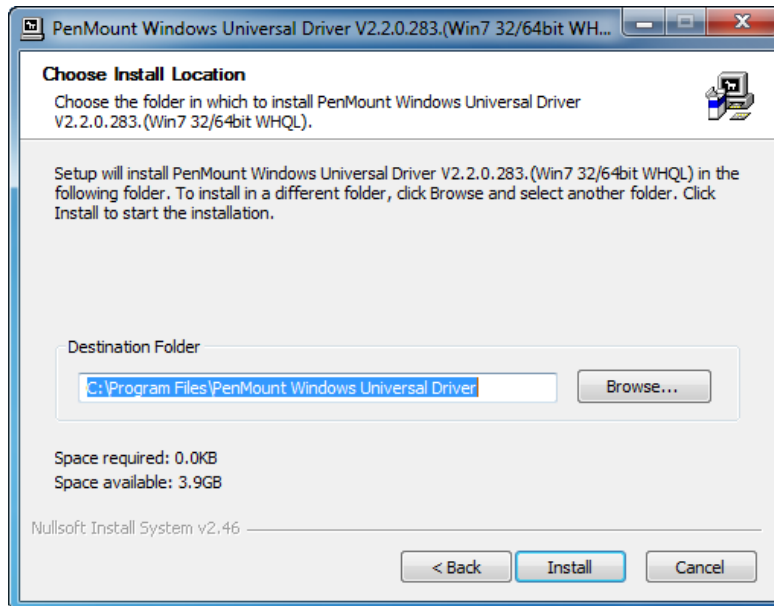

Figure 8-14: Touch Screen Driver Choose Install Location
Step 8: Browse for an install location or use the one suggested (**Figure 8-14**).